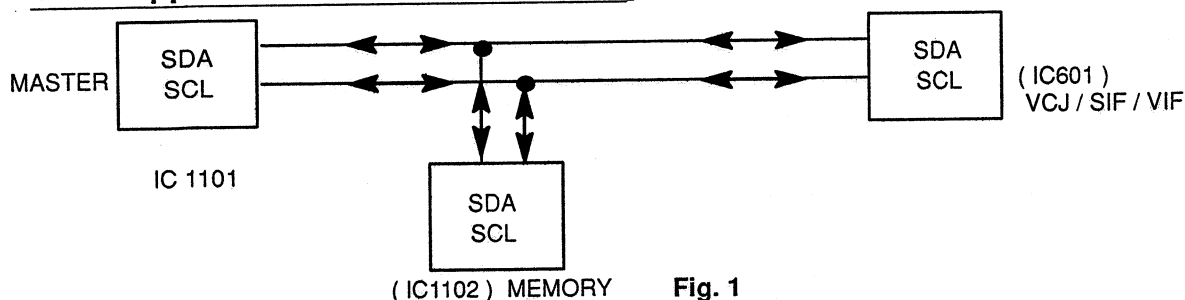

Fig. 1
1. Various control functions are possible via the I²C bus from the microcomputer IC1101 to VCJ IC601, as shown in **FIG.1**.